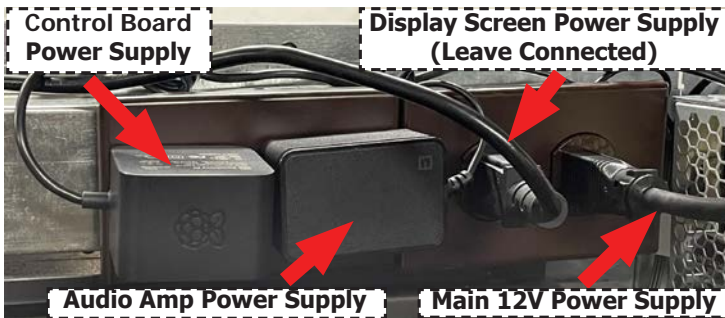

Figure 25: Power Supply Plugs
- e. Disconnect the component tray power supplies from the plug boxes on the back wall near the tray. Leave the display screen power supply plugged in. (See Figure 25).